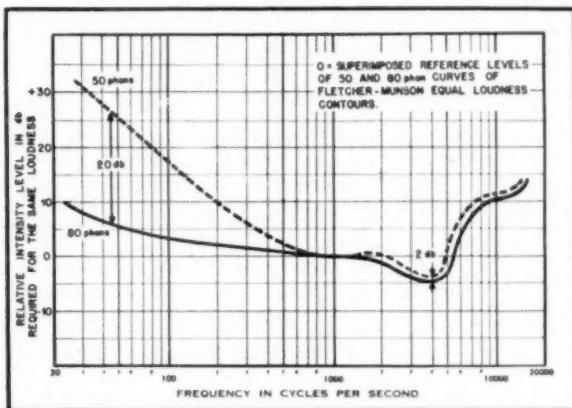

Fig. 1. The 50- and 80-phon equal loudness contours (from Fletcher and Munson) superimposed.
Fig. 1. (A), Voltage response curves of a typical commercial tone control circuit of the R-C type, maximum positions. (B), Voltage response curve of a commercial tone control circuit of the L-R-C type, maximum positions.
A circuit which introduces a progressive response slope rather than uniform elevation or depression of a whole band of frequencies, besides being of far simpler design, provides the desired form of compensation in most applications. It is common although not universal practice for dual tone controls to use approximately the same transition frequency region, usually at or below 1,000 cps, for both bass and treble variation. Figure 1 shows the response curves of two such tone control circuits employed commercially.